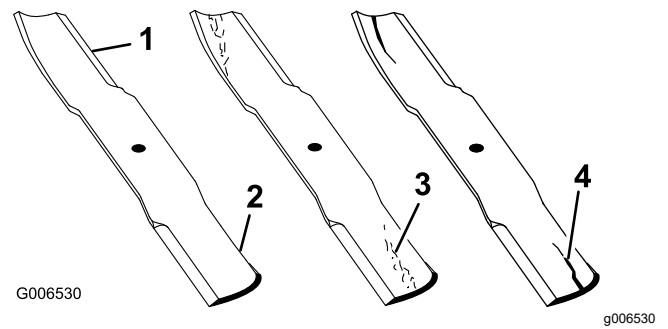

**Figure 71**
1. Inspect the cutting edges (Figure 71).
4. If you notice any cracks, wear, or a slot forming in this area, immediately install a new blade (Figure 71).